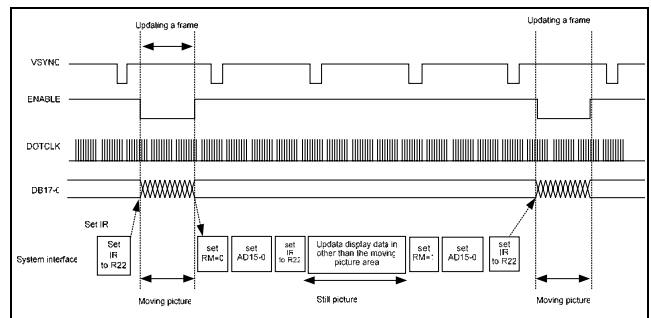

Figure 8-17
**Figure 8-17** illustrates the timing diagram when displaying a moving picture through the RGB interface and rewriting data in the still picture GRAM area through the system interface.